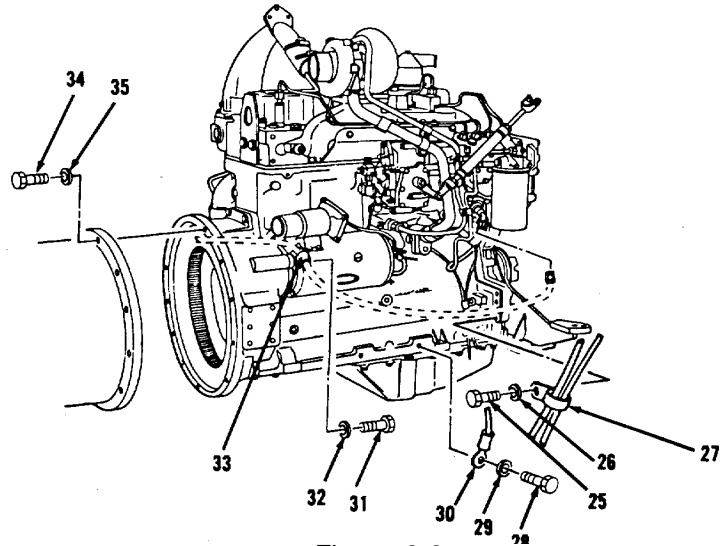

Figure 3-6.
- 19. Remove bolt (25), washer (26) and clip (27, Figure 3-6) from lower, right side of engine.
- 20. Remove bolt (28) and washer (29).
- 21. Disconnect wire assembly (30) at terminal.
- 22. Remove bolt (31), washer (32) and clip (33) from oil filter tube.
25. Install ten of 12 lockwashers (35) and bolts (34, Figure 3-6) to rear of engine.
26. Install clip (33), washer (32) and bolt (31) to right side of engine.
27. Position wire assembly (30).
28. Install washer (29) and bolt (28).
29. Install clip (27), washer (26) and bolt (25) securing cables to backside of engine front cover.